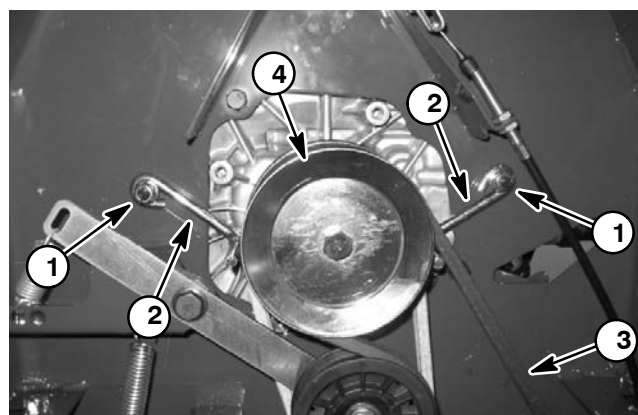

Figure 7
7. On the underside of the machine frame (Fig. 7):
A. Loosen flange nuts that retain two (2) belt guides to frame. Position belt guides away from engine pulley.
C. Remove four (4) screws that secure engine to machine.
4. Apply Loctite #242 (or equivalent) to threads of cap screw (item 19). Secure pulley to crankshaft with cap screw. Torque cap screw from 50 to 60 ft-lb (68 to 81 N-m).
6. Align holes in frame with engine mounting holes. Secure engine to frame with four (4) screws. Torque screws from 250 to 450 in-lb (28 to 51 N-m).
B. Position two (2) belt guides to allow from .060" to .130" (1.5 to 3.3 mm) clearance when the traction (upper) belt is tensioned by the idler pulley. When properly positioned, tighten flange nuts to secure belt guides to frame.
10. Connect stop switch wire to engine. Secure ground wire to fuel tank bracket (item 14) with screw.